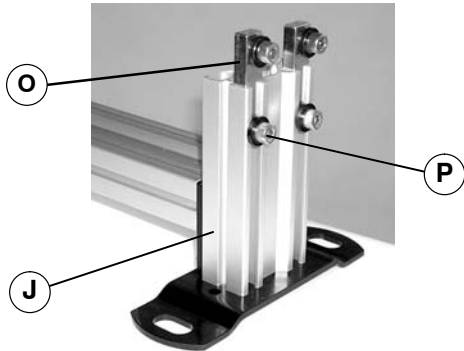

Figure 4
Failure to secure tier joint screws (P of Figures 4 and 6) may cause tube joining bar and conveyor sections to drop down, causing severe injury.
**TIGHTEN ALL TIER JOINT SCREWS (P) AFTER INSTALLATION.**
4. Install tube joining bar assembly (O of Figure 4) at top of leg on base assembly (J). Half of tube joining bar assembly must extend above leg, as shown. Tighten screw (P) to 130 in-lbs (15 Nm).